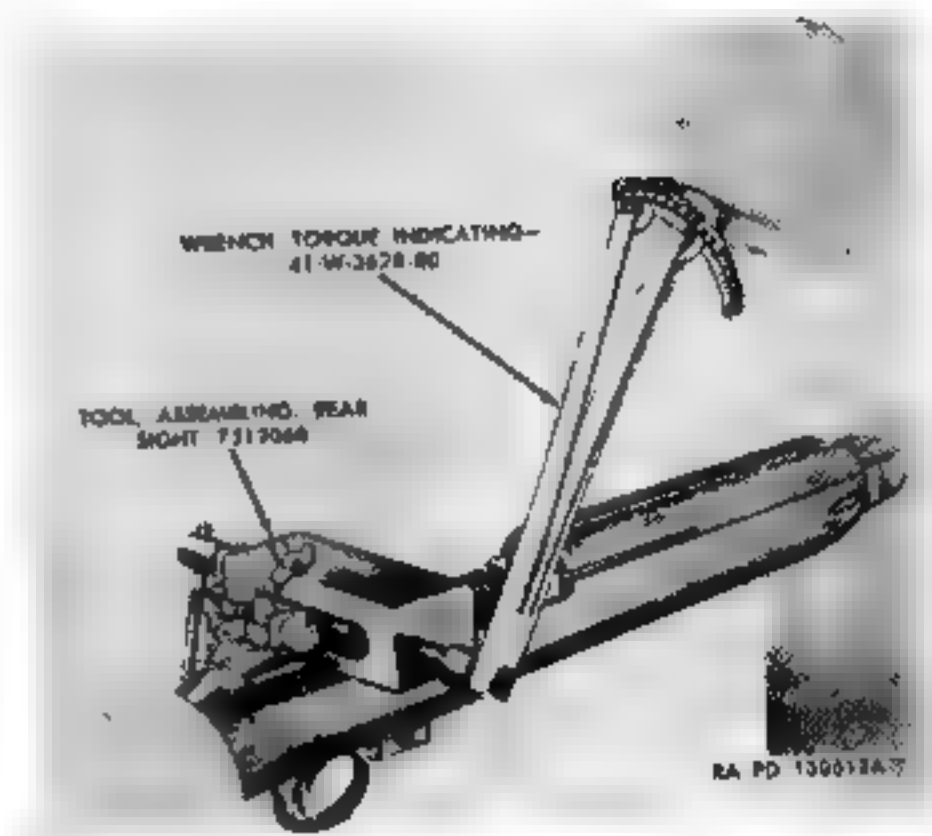

Figure 70. Moving rear sight in place with torque wrench.
g. Insert torque wrench 41-W-3628-85, and move the sight into the dovetail slot (Fig. 70). Wrench should show an applied torque reading of between 18 and 54 inch-pounds. If the reading is not within the above limits, remove sight and proceed as follows: